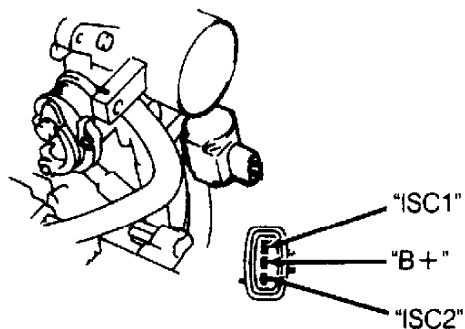

Fig. 62: Checking ISC Valve
3) If engine RPM was not within specification, disconnect ISC valve connector. Using ohmmeter, measure resistance between terminals "B +" and "ISC1" AND "ISC2". See Fig. 62. Replace valve if resistance is not within 16-17 ohms.
2) Reconnect ISC valve. Engine should return to idle speed of 700-800 RPM. If engine RPM was not within specification, disconnect ISC valve connector. Using ohmmeter, measure resistance between terminals "B +" and "ISC1" AND "ISC2". See Fig. 62. Replace valve if resistance is not within 16-17 ohms.